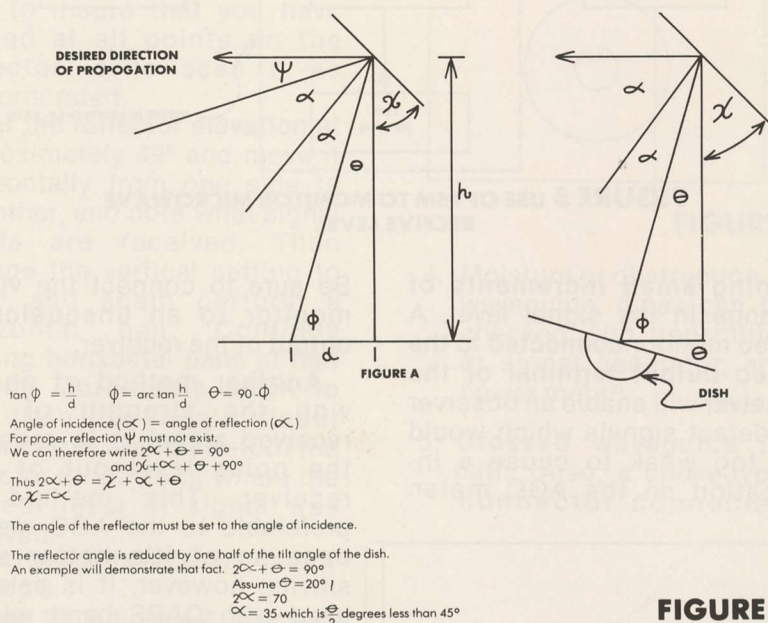

FIGURE 3
etc., and can be purchased at most hardware stores. If the dish does not lie directly beneath the reflector, refer to **figure 3** to determine the tilt angle of the dish and reflector.
Step 6 Preset R1. Using the angle finder described in Step 3, adjust the reflector to 45° . If A1 has been set to any angle other than 0° (level), R1 must be set by $1/2$ of this difference. For example, if the dish was tilted in toward the tower from level by 20° , the reflector must be raised from 45° by 10° (see figure 3). Set R1 on azimuth (aimed toward the receive tower). Use topographical maps and landmarks, pocket compass and calculated azimuth, and visual sighting of the receive tower to set R1 on azimuth. Be precise with the setting of R1, since it is the component most likely to prevent signal reception during the first alignment attempt of R2.